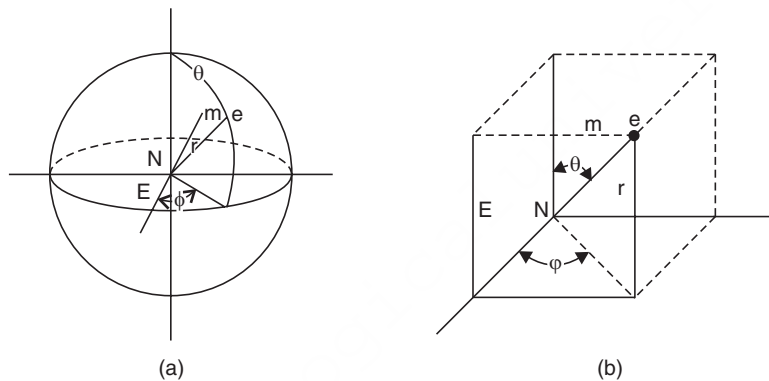

Fig. 1.3
where  $r$ ,  $\theta$  and  $\phi$  are the polar co-ordinates of the electron with respect to the nucleus (N) as origin [see Fig. 1.3 (a) and (b)].